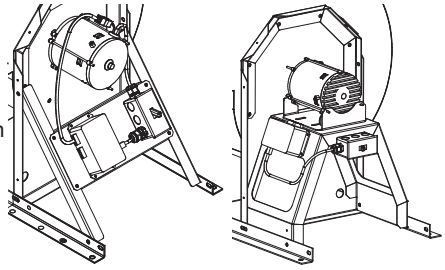

Figure 4
1. Refer to Figure 4, fasten transformer to drive frame angles using the pre-existing holes and the four #10 x 1/2 screws provided.